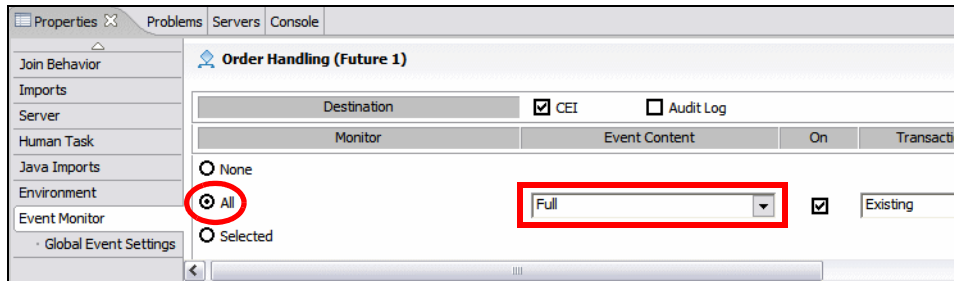

Figure 12-10 Specify that all events are created with full content
- ▶ In the Event Monitor Tab, Select *All* under Monitor and *Full* under Event Context (Figure 12-10).